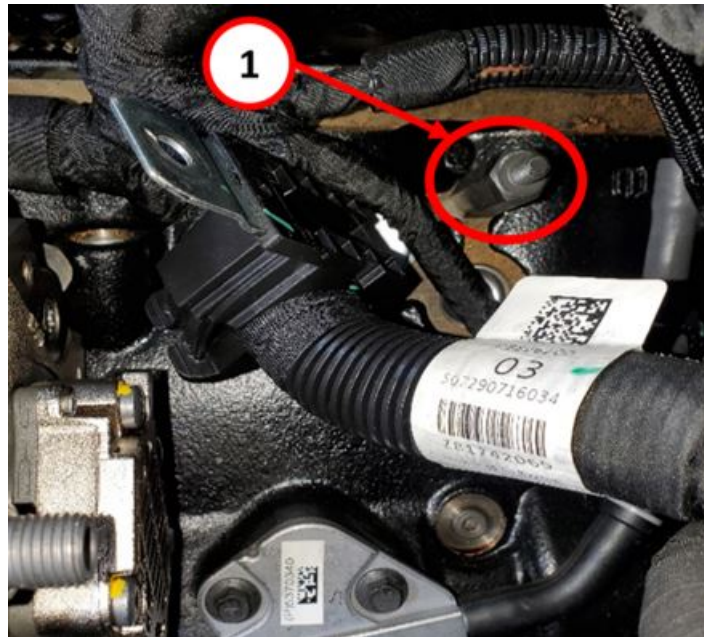

Fig. 10
- 27. ******Remove and discard old harness retainer stud (Fig. 10) .